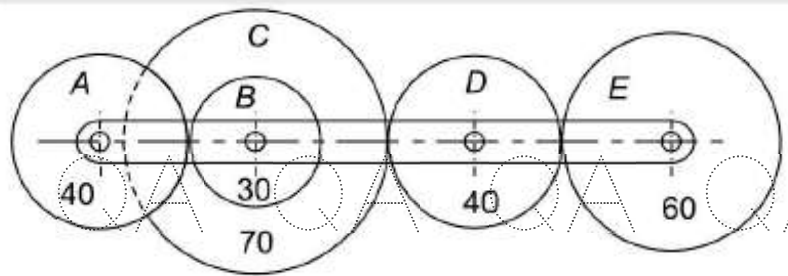

Figure 2
11. A gear train in which gears B & C constitute a compound gear is as shown in figure. The number of teeth are shown along with each wheel in the figure 2. Determine the speed and direction of rotation of wheels A & E if the arm revolves at 210 rpm clockwise and the gear D is fixed. [10]